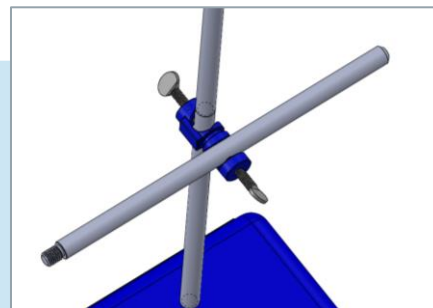

**Figure 4.** Connect the Two Remaining Rods
3. Take the two remaining Rods (A) and tighten them together (Figure 4).